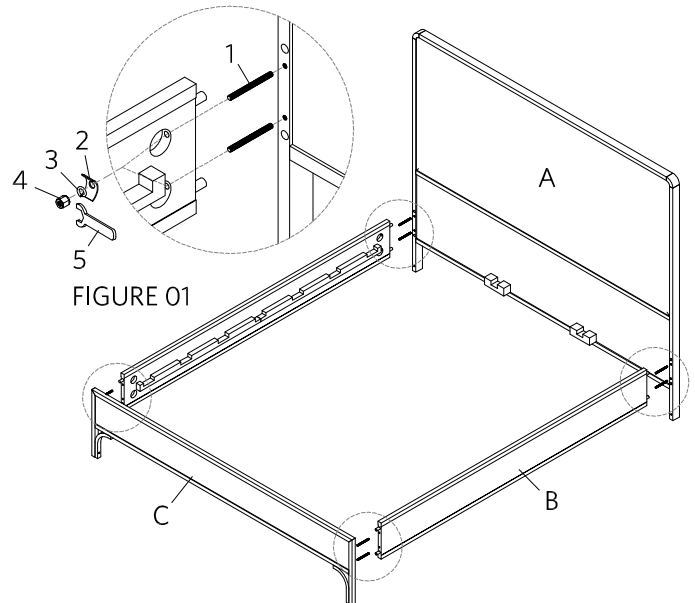
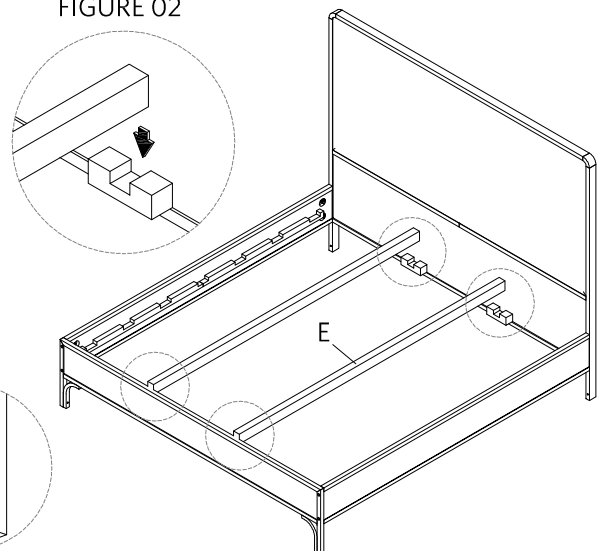

FIGURE 01
FIGURE 02
1. Place the headboard (A) upright in the position you wish the bed to be in when fully assembled.
3. Secure the threaded rod (1) to the fixed nut in the headboard (A) by simply turning it manually.
4. Raise the side rail (B) up and place the rod (1) to align with the bore holes on the end of the side rail (B). Put the side rail (B) up against the headboard (A) so the threaded rods (1) go through the bore holes. Insert curved washers (2), lock washers (3) and place hex nuts (4) on threaded rods (1) then tighten the hex nuts (4) with wrench (5), as illustrated in FIGURE 01.
5. Repeat the above procedure with the other side rail (B) to attach it to the headboard (A), and then repeat to connect side rails (B) to the footboard (C).
6. On inside of both headboard (A) and footboard (C) are pre-installed wooden brackets for the support slat (D). Set the support slat (D) on the wood bracket, as illustrated in FIGURE 02.